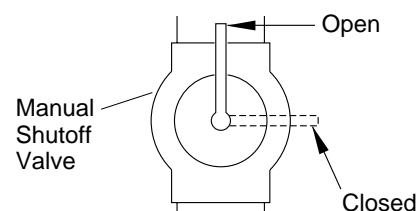

Figure 33 - Manual Shutoff Valve
1. Close manual shutoff valve (see Figure 33).
1. Open manual shutoff valve (see Figure 33, page 15).